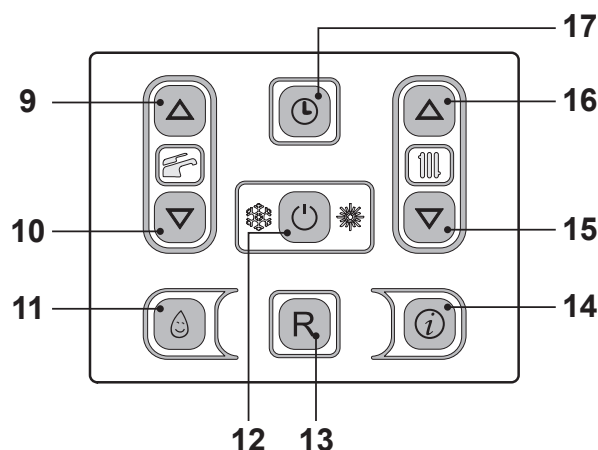

Fig. 2.7
Enter "programming mode" by holding down key 17 for 5 seconds (Fig. 2.7) until the display indicates the ⌚ symbol.
Use keys 15 (decrease) and 16 (increase) Fig. 2.7 to set the time, day and date values, using keys 9 and 10 to move from one parameter to the next.
- Press the key 12 for 2 seconds until both  symbol appear on the display Fig. 2.7.
The output temperature of c.h. water can be adjusted by acting on keys 15 (reduce) and 16 (increase) (Fig. 2.7) from a minimum of about 25°C to a maximum of about 85°C. Press one of the two keys once to display the "set" value. Press again to access the modification.
However, if the ambient temperature is not comfortable, the flow temperature of the heating plant can be increased or reduced by $\pm 15^{\circ}\text{C}$ by acting on keys 15 (reduce) and 16 (increase) (Fig. 2.7).
The heating temperature of the zone valve controlled by a thermostat is configured on the boiler control panel using keys 15 and 16 Fig. 2.7.